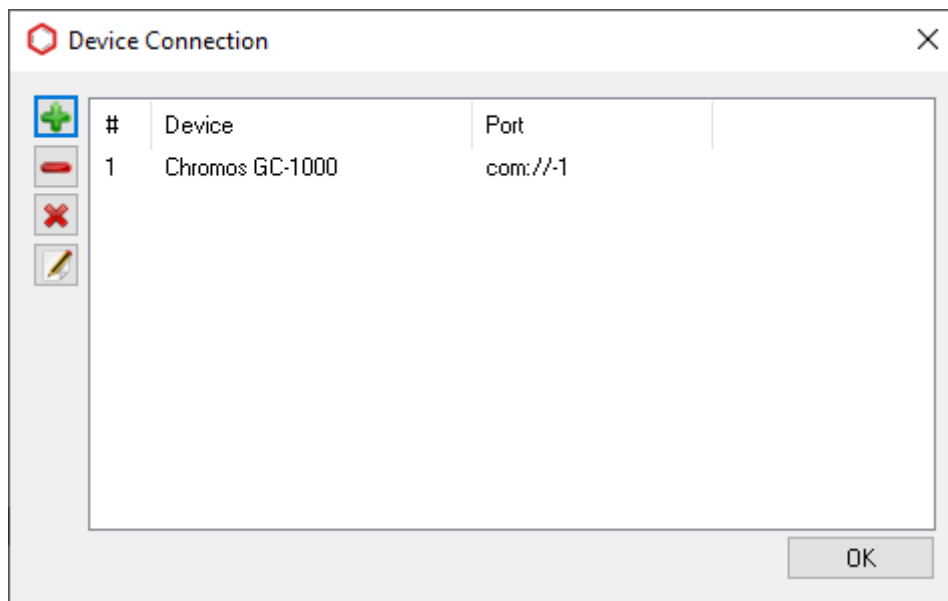

Fig. 104: Device Connection
5. In Chromos SW, in the *Devices* menu, select *Connection...*. The *Device Connection* window opens (Fig. 104):